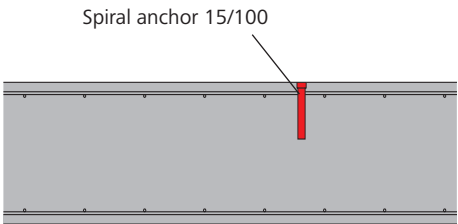

Fig. 17.2
1. Press a spiral anchor DW 15/100 into the fresh concrete (Fig. 17.2 and p. MFS-9).